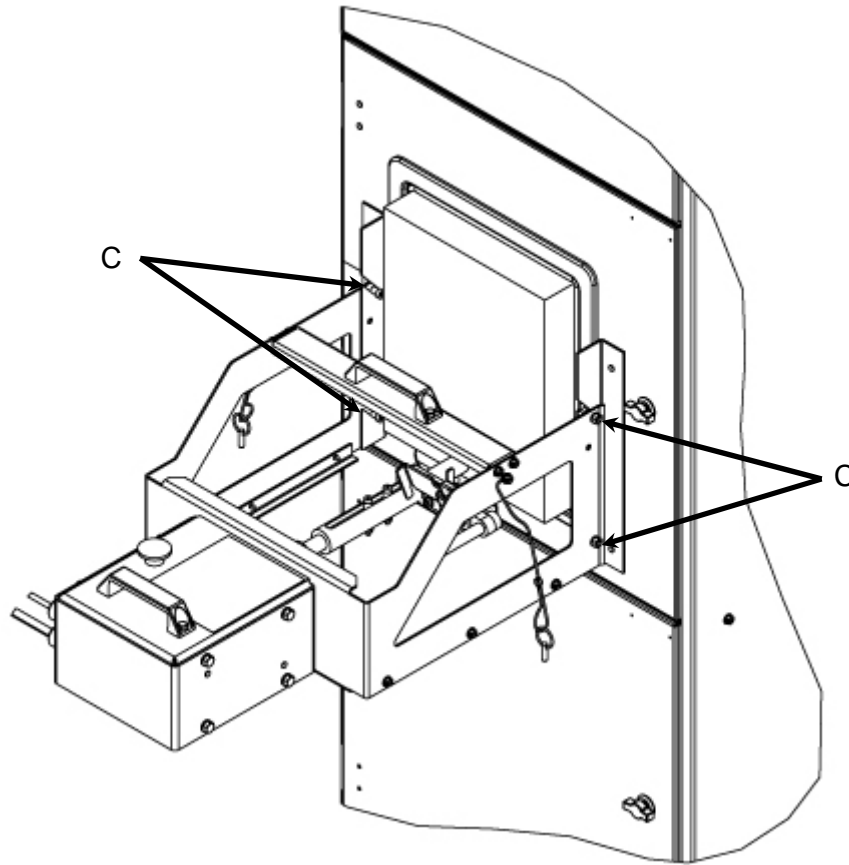

Fig. 2.3
4. Install the RBRD onto the door by sliding the 4 shoulder bolts into the angled slots of the door mounting brackets. Ensure the Device is fully seated. See Fig.2.3, item C.